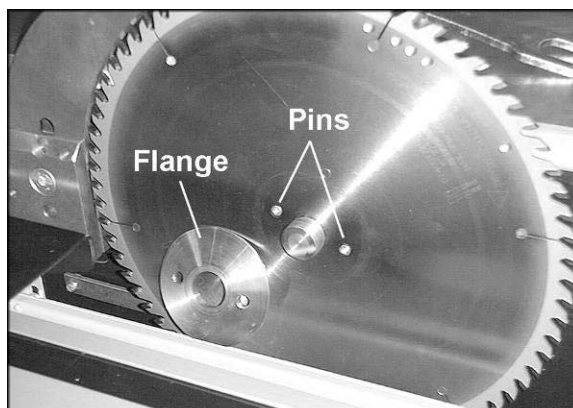

Figure 10
- Ensure new blade and flanges are clean, then mount new blade and flange, and tighten arbor nut securely. The blade and flange must slip over the two pins (Figure 10). This provides positive drive to the blade, and prevents the hex nut from loosening when the arbor rotation is halted by the motor brake.